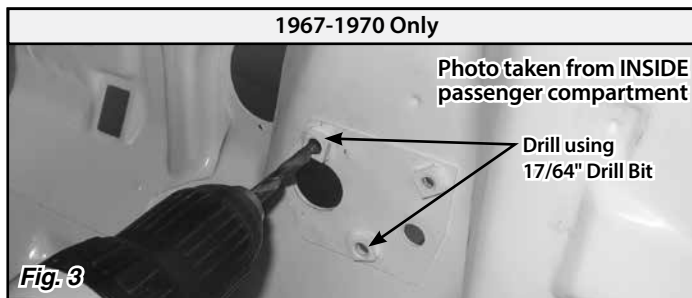

Fig. 3
**Step 3:** Using a 17/64" (0.2656") drill bit, drill out **ONLY TWO** of the three original mounting holes where the factory pedal was mounted to the firewall: the upper left, and the lower middle bolt holes. The arrows in **Fig. 3** show which holes are to be drilled out (photo taken from INSIDE the passenger compartment).